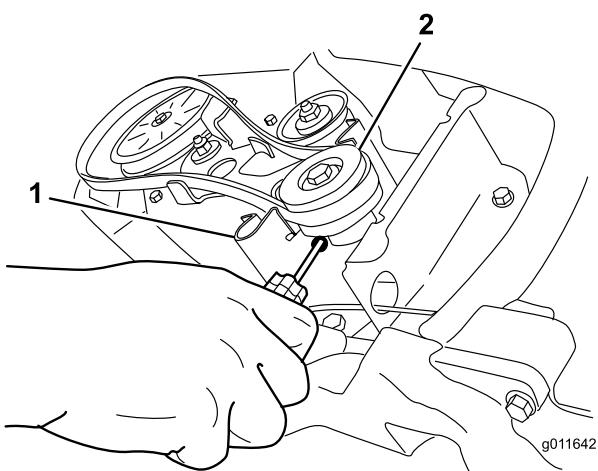

Figure 34
5. Insert a screwdriver into the hole in the belt guide as shown in Figure 34, and flex the belt guide toward the rotor pulley enough to pull the belt through the gap.